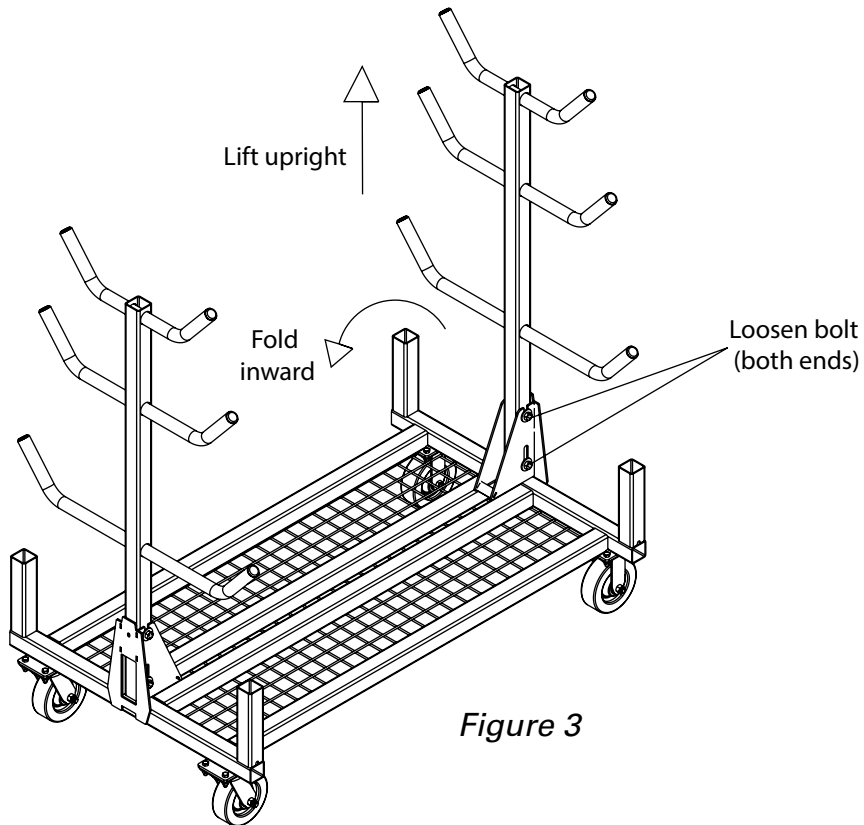

Figure 3
2. Lift the uprights high enough to clear the slot at the top of the upright support and fold inward (See Dis-Assembly Figure 3).